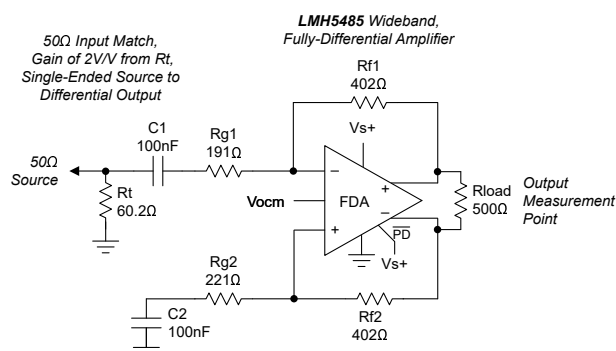
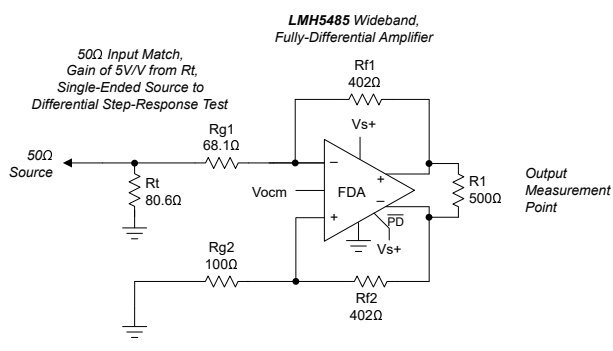

Figure 7-1. AC-Coupled, Single-Ended Source to a Differential Gain of a 2V/V Test Circuit
Figure 7-2. DC-Coupled, Single-Ended-to-Differential, Basic Test Circuit Set for a Gain of 5V/V
50MHz input, 0.5ns input edge rate, single-ended to differential output, split supply, dc-coupled, see Figure 7-2
Single-ended input to differential output, simulated differential output impedance, see Figure 7-1
Single-ended input to differential output, gain of 2 (see Figure 7-1), simulated with 1% resistor, worst-case mismatch
Single-ended to differential, gain of 2 (see Figure 7-1) PSRR simulated to differential output
Average Vocm output offset of 37 units, standard deviation < 2.5mV, see Figure 7-2
Single-ended to differential gain of 2 (see Figure 7-1), PSRR for negative supply to differential output (1kHz simulation)
Single-ended to differential gain of 2 (see Figure 7-1), PSRR for positive supply to differential output (1kHz simulation)
see Figure 7-2
The LMH5485-SP offers the advantages of a fully differential amplifier (FDA) design, with the trimmed input offset voltage of a precision op amp. The FDA is an extremely flexible device that provides a purely differential output signal centered on a settable output common-mode level. The primary options revolve around the choices of single-ended or differential inputs, ac-coupled or dc-coupled signal paths, gain targets, and resistor Value selections. Differential sources can certainly be supported and are often simpler to both implement and analyze. Figure 7-1 and Figure 7-2 show examples of both ac and dc coupled single-ended to differential circuits.
Figure 7-1 shows how most characterization plots fix the R_f value at 402Ω. This value is completely flexible in application, but the 402Ω provides a good compromise for the issues linked to this value, specifically:
- Added output loading. The FDA appears like an inverting op amp design with both feedback resistors as an added load across the outputs (approximate total differential load in Figure 7-1 is $500\Omega \parallel 804\Omega = 308\Omega$).
The outputs offer near rail-to-rail output swing (0.2V headroom to either supply), while the device inputs are negative rail inputs with approximately 1.2V of headroom required to the positive supply. Figure 7-2 shows how this negative rail input directly supports a bipolar input around ground in a dc-coupled, single-supply design. Similar to all FDA devices, the output average voltage (common-mode) is controlled by a separate common-mode loop. The target for this output average is set by the Vocm input pin that can be either floated to default near midsupply or driven to a desired output common-mode voltage. The Vocm range extends from a very low 0.91V above the negative supply to 1.1V below the positive supply, supporting a wide range of modern analog-to-digital converter (ADC) input common-mode requirements using a single 2.7V to 5.4V supply range for the LMH5485-SP.
Going to the device input pins side, because both the source and balancing resistor on the nonsignal input side are dc blocked (see Figure 7-1), no common-mode current flows from the output common-mode voltage, thus setting the input common-mode equal to the output common-mode voltage.
The output considerations remain the same as for the ac-coupled design. Again, the input can be dc-coupled while the output is ac-coupled. A dc-coupled input with an ac-coupled output can have some advantages to move the input Vicm down if the source is ground referenced. Figure 7-2 shows how when the source is dc-coupled into the LMH5485-SP, both sides of the input circuit must be dc coupled to retain differential balance. Normally, the nonsignal input side has an R_g element biased to whatever the source midrange is expected to be. Providing this midscale reference gives a balanced differential swing around Vocm at the outputs.